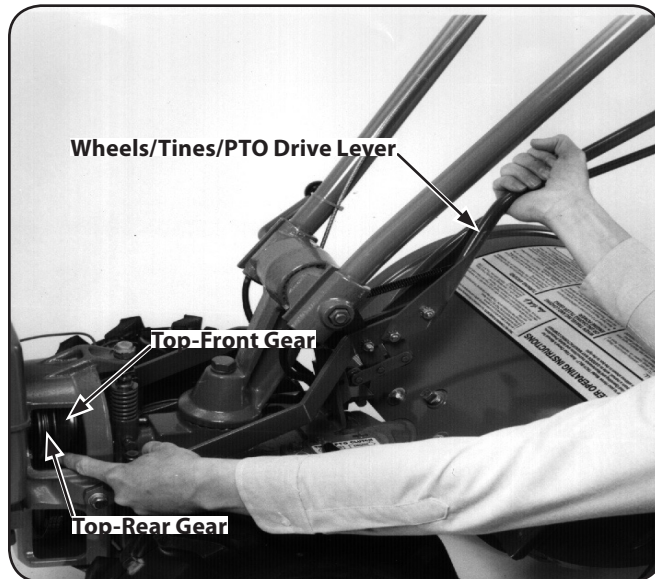

Figure 5-9
3. Stand on the left side of the tiller. Use your right hand to hold the Wheels/Tines/PTO Drive Lever up into REVERSE position. Use your left hand to move the belt off the top-front engine pulley groove to top-rear engine pulley groove. See Figure 5-9.